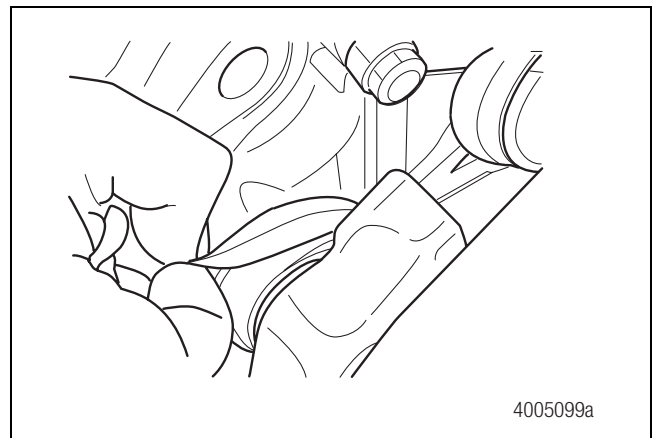

Figure 5.51
4. Verify that the slide pin boots are correctly located on both the carrier and housing retainers. Figure 5.51.